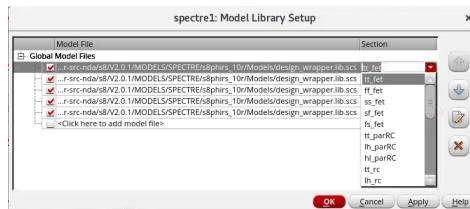

Figure 26: Changing the model library file corner.
- From the ADE L window, click on *Setup -> Model Libraries* as shown in Fig. 26.